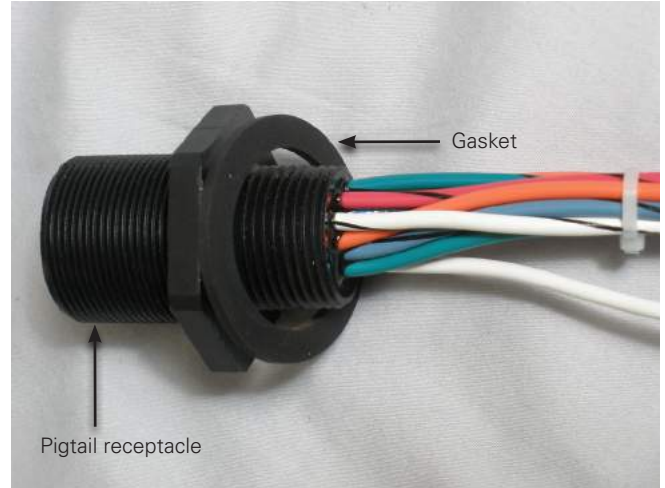

Figure 30. Gasket installed over pigtail connector.
- Place one of the gaskets (Item 4), over the pigtail harness wires seating the gasket against the connector nut as shown in Figure 30